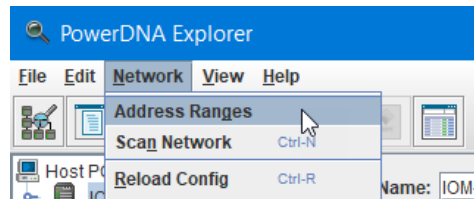

Figure 5-2 View Address Ranges
- a. Navigate to **Network » Address Ranges** in the PowerDNA Explorer menu (**Figure 5-2**).